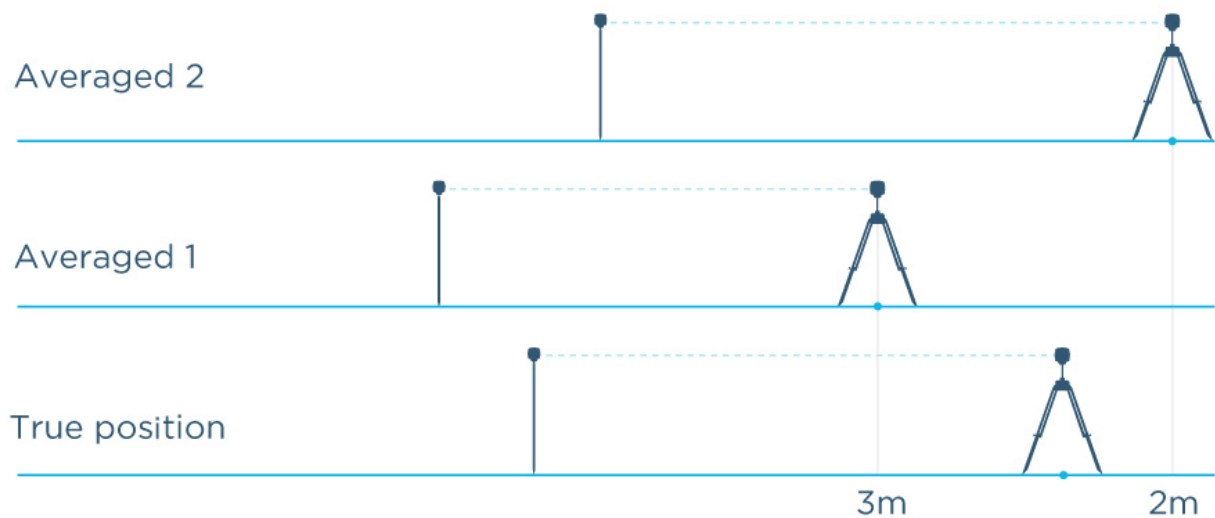

Figure 1
For example, when you don't know the base position, you can average it in SINGLE. Averaging is done in standalone mode without using any corrections, and the position is determined with the accuracy of several meters. Each time you average the base position from the same point, the measured coordinates may differ by several meters from the previous results and from the true position. Thus, the actual (absolute) accuracy of the rover measurements will be at meter level. See Figure 1 below.
1. Measure the distance from the mark to the bottom of your Reach (h in Figure 1).
Note: For Reach RS2/RS2+, the antenna height is the distance from the mark on the ground to the center point on the Reach's bottom (h in Figure 1), antenna reference point (ARP), plus the height of the receiver to the antenna phase center (APC), antenna height offset. Emlid Flow automatically adds the antenna height offset, which is 134 mm.